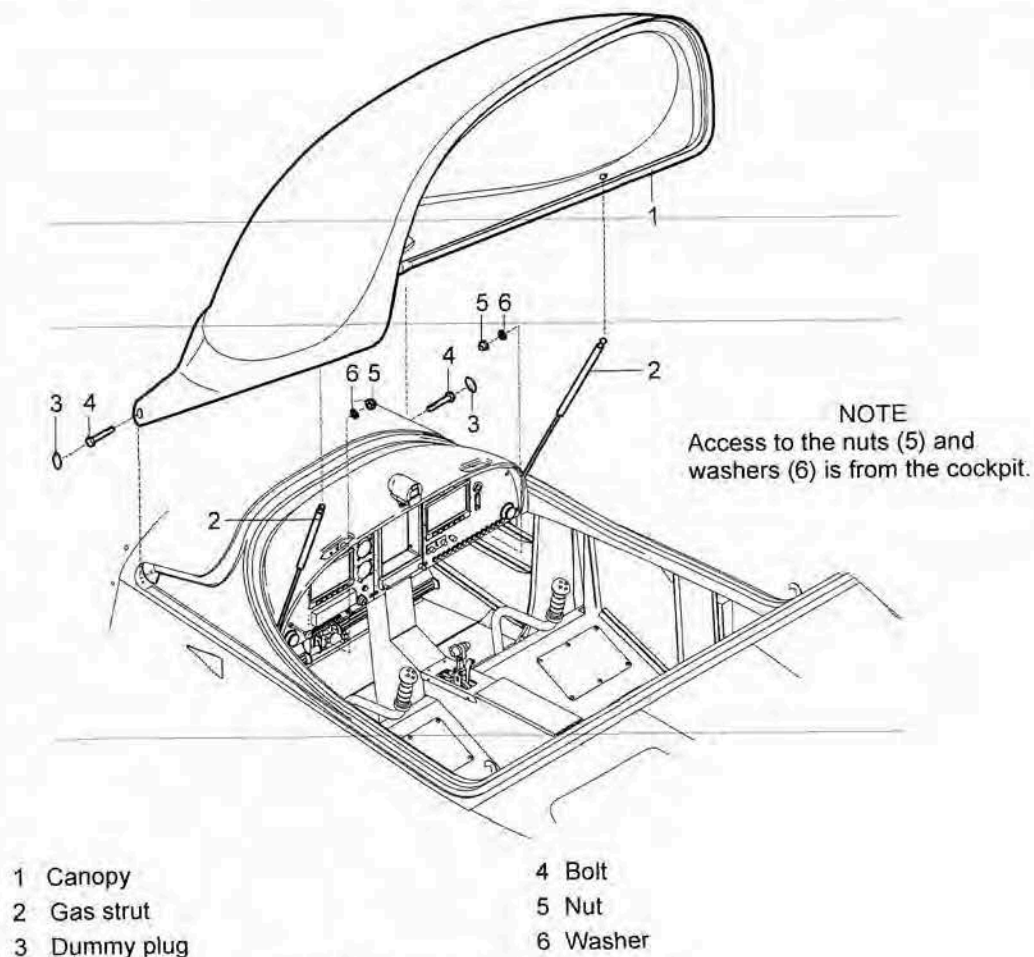

Fig. 3-4: Canopy removal / installation
- Open the canopy (1, Fig. 3-4).
- Remove the dummy plugs (3).
- Disconnect upper end of the gas struts (2) on both sides of canopy (1) (see 3.3.3).
- Unscrew the nuts (5), remove the washers (6) and the bolts (4).
- Carefully remove the canopy (1) and store it in a safe place so that windscreen damage cannot occur.
- Set the canopy (1, Fig. 3-4) on the fixed frame.
- Insert the bolts (4) into the hinges, install the washers (6), screw and tighten the nuts (5).
- Open the canopy (1) and hold it.
- Connect upper end of the gas struts (2) on both sides of canopy (1) (see 3.3.4).
- Install new dummy plugs (3).